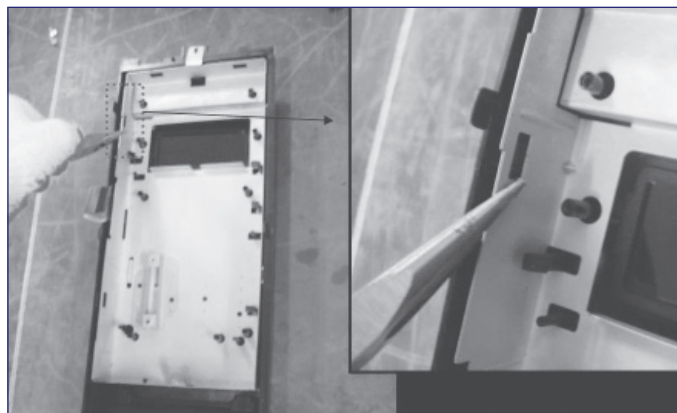

Figure 4-27. Metal Bracket Removal
1. Remove Metal bracket from Control Panel Sub. (See Figure 4-27 and 4-28)